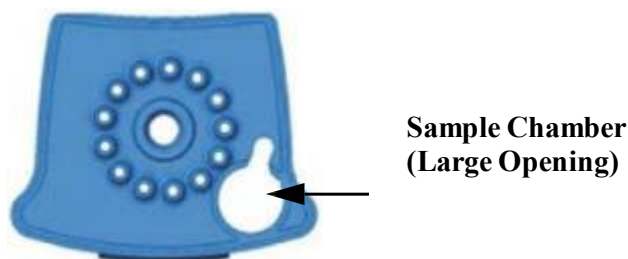

Figure 11. Xpert Xpress SARS-CoV-2 Cartridge (Top View)
10. To transfer the patient specimen or external control to the cartridge, squeeze the top bulb of the transfer pipette **completely** again to empty the contents of the pipette into the large opening (Sample Chamber) in the cartridge shown in Figure 11. Dispose of the used pipette.